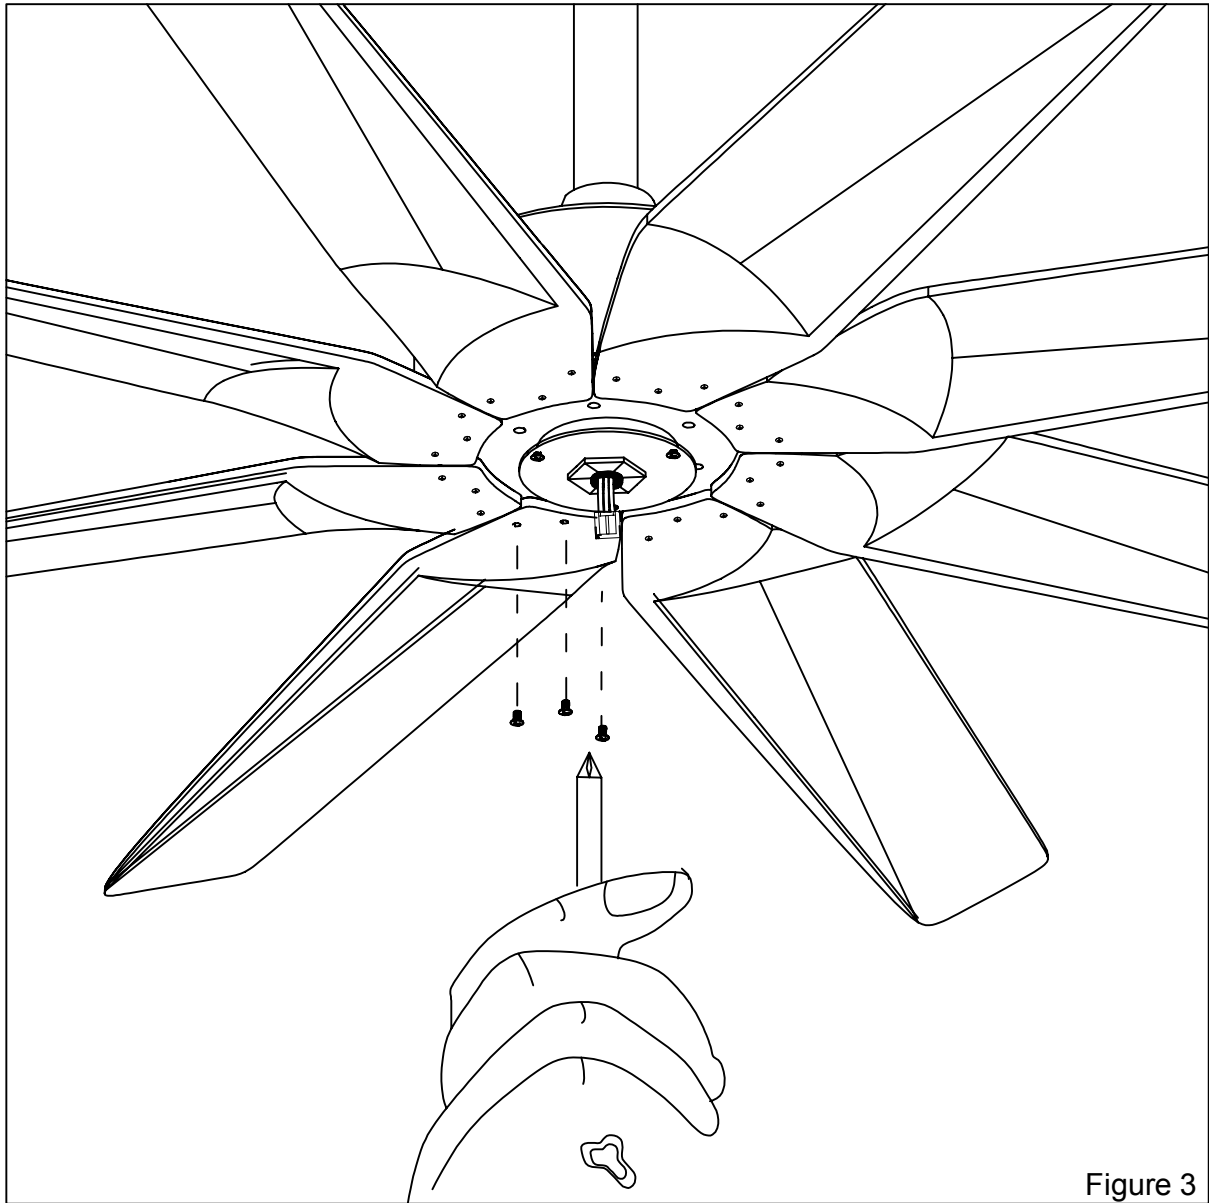

Figure 3
- Fix the fan blades on the motor with screws in turn. (Figure 3)